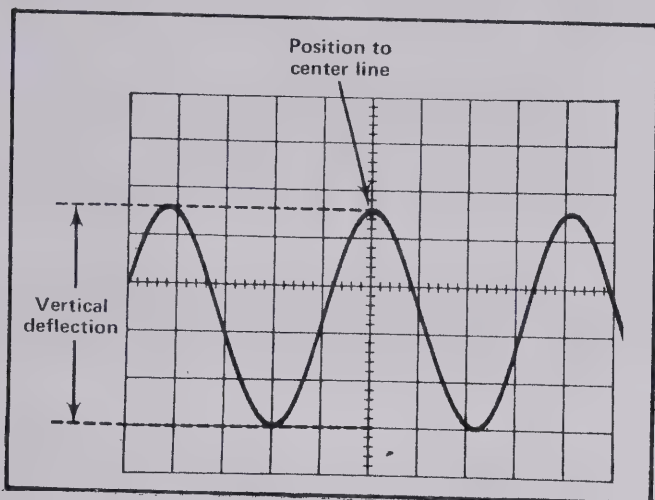

Fig. 2. Measuring peak-to-peak voltage of a waveform.
b. Turn the vertical POSITION control so the lower portion of the waveform coincides with one of the graticule lines below the center horizontal line, and the top of the waveform is on the viewing area. Move the display with the horizontal POSITION control so one of the upper peaks lies near the center vertical line (see Fig. 2).
Example. Assume a peak-to-peak vertical deflection of 4.6 divisions (see Fig. 2) with a VOLTS/DIV switch setting of .5.